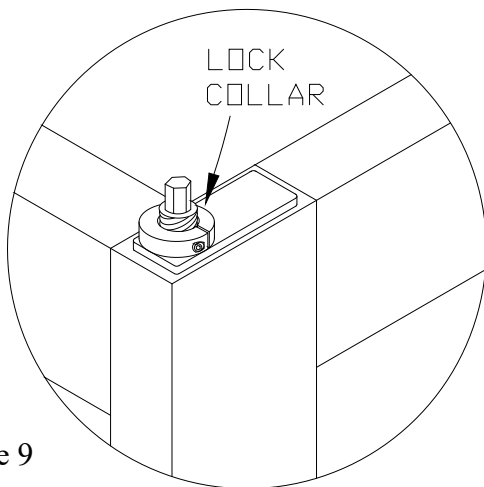

Figure 9
19. If necessary; repeat these steps until the *Backboard* (J) and *Breakaway Goal* (L) are level in every direction and the *Breakaway Goal* (L) is at the official 10' height. Lower the unit to the storage position. Attach the *Backboard Braces* (E) as described in step 11. **WARNING! Be careful to tighten the brace bolts without putting forward or twisting stress on the backboard as glass breakage is possible.**
20. Lower the lock collars on the leveling screws until they are tight against the *Portable Base* (A). Tighten the set screws to insure easy repeat adjustment to the official 10' *Breakaway Goal* (L) height. See Figure 9.